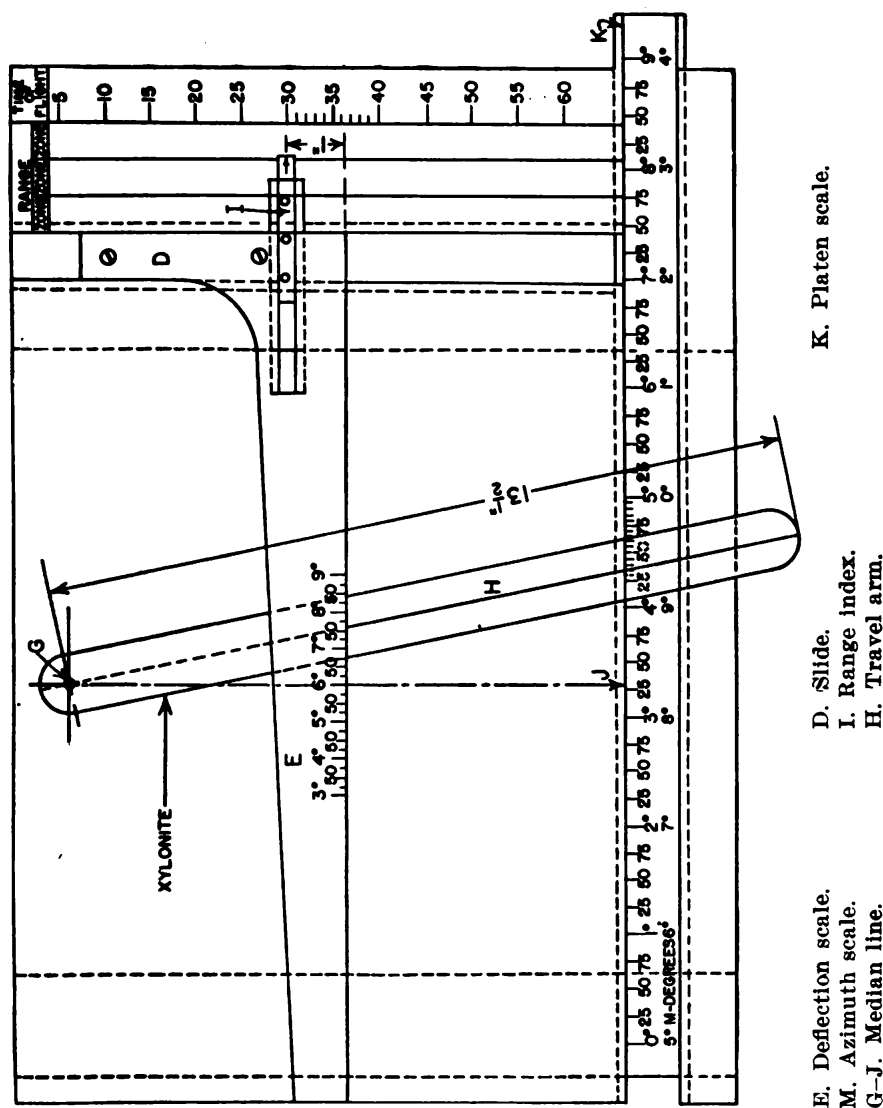

FIGURE 55.—Angular travel computer.
(1) Set the movable slide coincident with the fixed index of the adjustment correction slide and opposite its normal (zero correction).
(2) Move the adjustment correction slide in the proper direction until the amount of the correction is read opposite the fixed index and the marker.
(3) The set index has been displaced by the amount of the correction, and readings made on the azimuth tape opposite the read index will give corrected azimuth, which includes the adjustment correction.
(4) Move the reference pointer so that it will again be opposite the normal of the adjustment correction slide.
(5) Apply additional adjustment corrections with reference to the index of the marker, and after the corrections have been accomplished always move the marker until it is again opposite the normal of the adjustment correction slide.
Q. Point out and state the purpose of each of the following parts: azimuth scale; median line; deflection scale; travel arm. *A.* See figure 55.